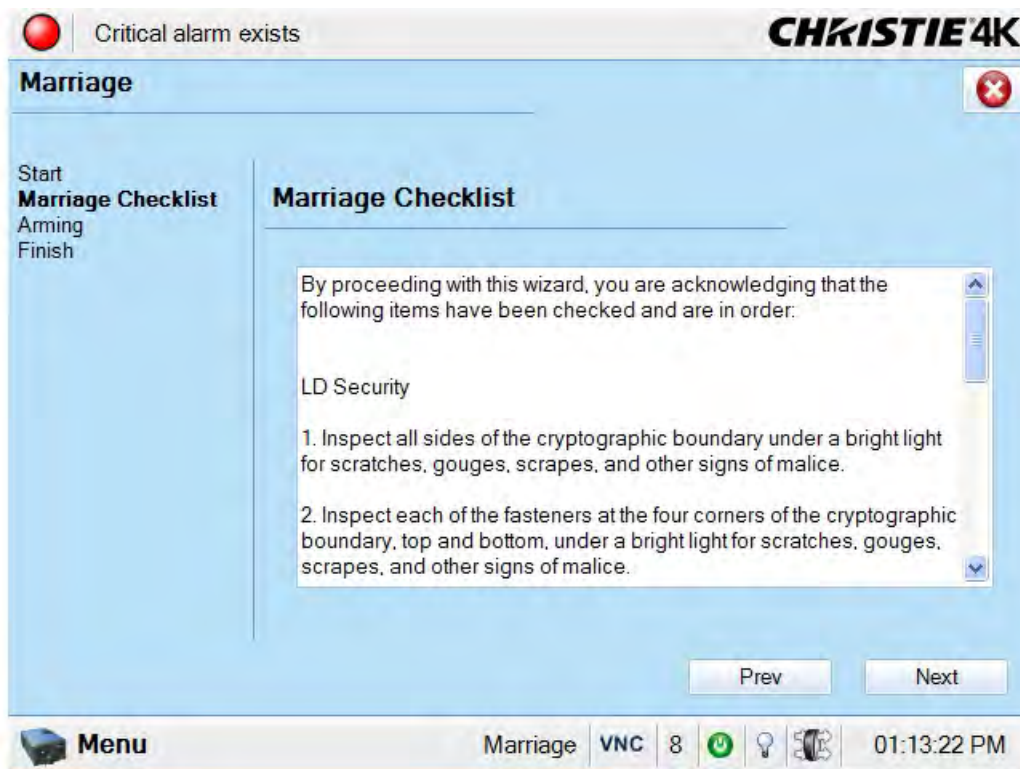
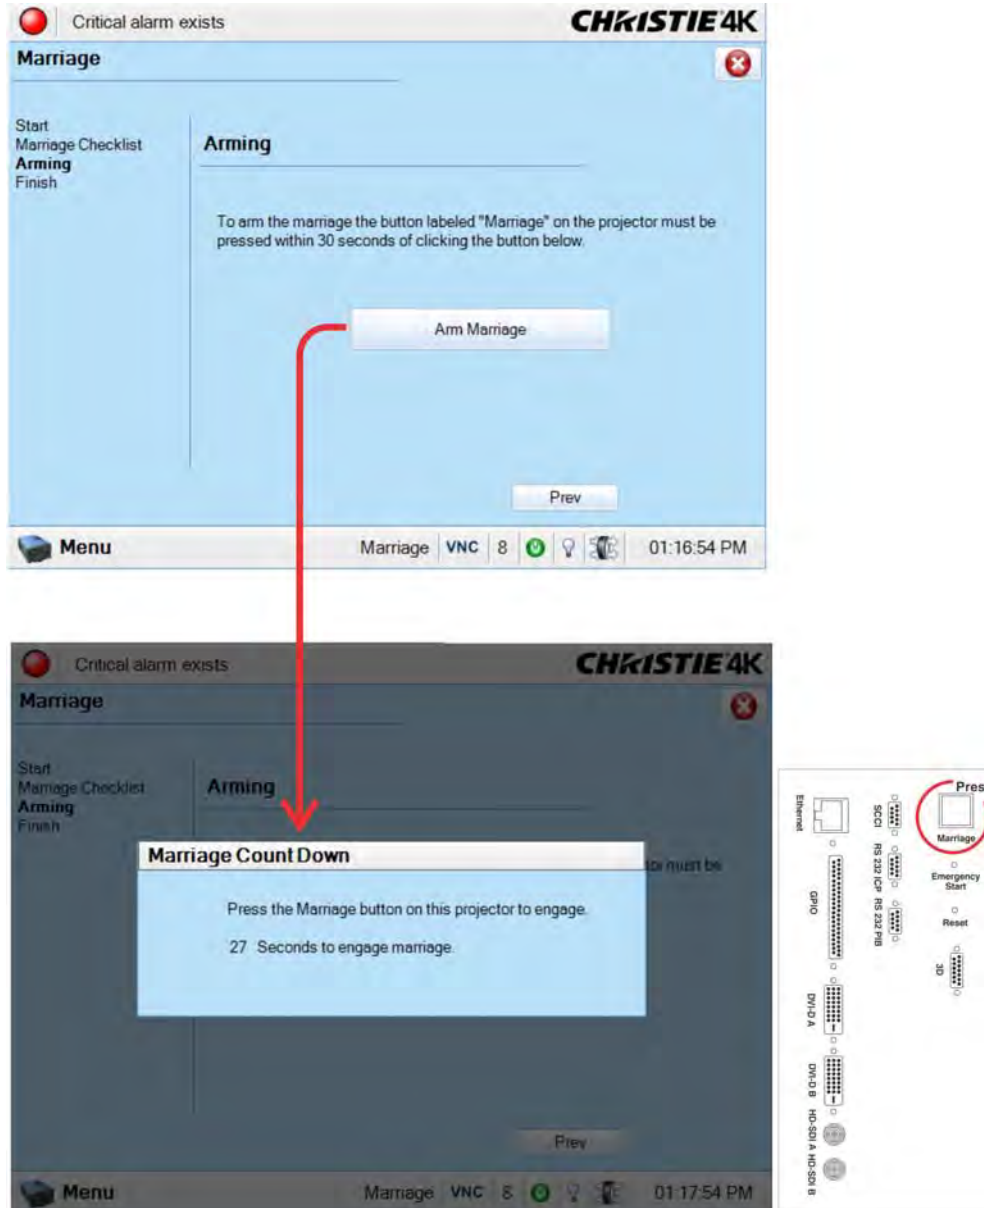

Figure 3-14 Administrator Setup: Marriage Checklist Window
Figure 3-15 Press Marriage Button on PI Board after tapping Arm Marriage Button
Marriage is the engaging of the DCI physical interlocks that enable the display of secured materials. The **Marriage** window begins a series of panels that guides you through the sequence of steps required to engage the projector's married condition. The left column of the **Marriage** window shows which state you're currently at in the marriage process. (Figure 3-14) Tap the **Next/Prev** buttons to navigate the series of steps.
2. In the **Marriage Checklist** window (Figure 3-14), the wizard checks that all tamper switches are secure and it presents a list of items that you must check to ensure the projector is secure before proceeding. Tap the **Next** button to proceed to the **Arming** window.
- In the **Arming** window, tap the **Arm Marriage** button. (Figure 3-14). A 30 second count-down timer begins. (Figure 3-15). The LED in the **Marriage** button on the PI Board will flash green during this count-down. You **MUST** press the **Marriage** button on the PI Board within this 30 second window in order for the marriage to take effect. When the **Marriage** button is pressed, the LED button will change to a solid green to indicate a successful marriage.